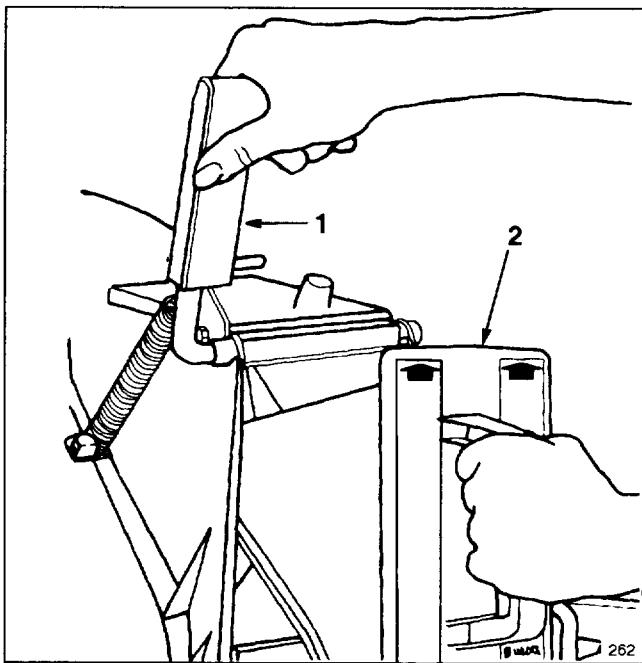

Figure 8
1. Make sure engine is off. Open the discharge door by pulling forward on the handle and moving it rearward (Fig. 8). Hold the discharge door handle to prevent the spring-loaded door from closing while inserting the plug.
2. Since the plug is slightly wider than the discharge tunnel opening, you must rotate the plug clockwise slightly while inserting it (Fig. 8). Make sure the arrow on the plug decal is pointing upward.